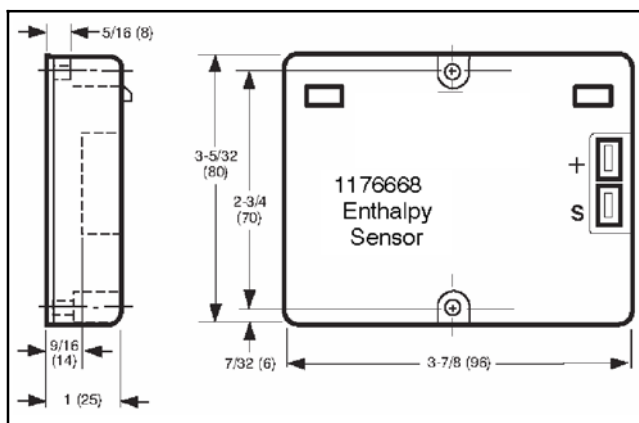

Fig. 3 - Enthalpy Sensor Specifications
4. Locate the pink and yellow wires coming from the Economizer controller terminals “SO+ a” (pink) and “SO” (yellow). (See Fig. 2.) Connect the wires to the enthalpy sensor. Connect the yellow wire to the “S” terminal and the pink wire to the “+” terminal on the enthalpy sensor. (See Fig. 3.)
5. Pick up the black and red wires left hanging from Step 2 and connect them to the enthalpy sensor. Connect the red wire to the sensor's "S" terminal and the black wire to the sensor's "+" terminal. See Fig. 3 for details.
6. Pick up the the black and red wires left hanging from Step 3 and connect them to the enthalpy sensor. Connect the red wire to the sensor's "S" terminal and the black wire to the sensor's "+" terminal. See Fig. 3 for details.
6. Connect the red wire to the "SR" terminal and the black wire to the "SR+" terminal on the Economizer controller. (See Fig. 3.)
7. Connect the red wire to the "SR" terminal and the black wire to the "SR+" terminal on the Economizer controller. (See Fig. 3.)